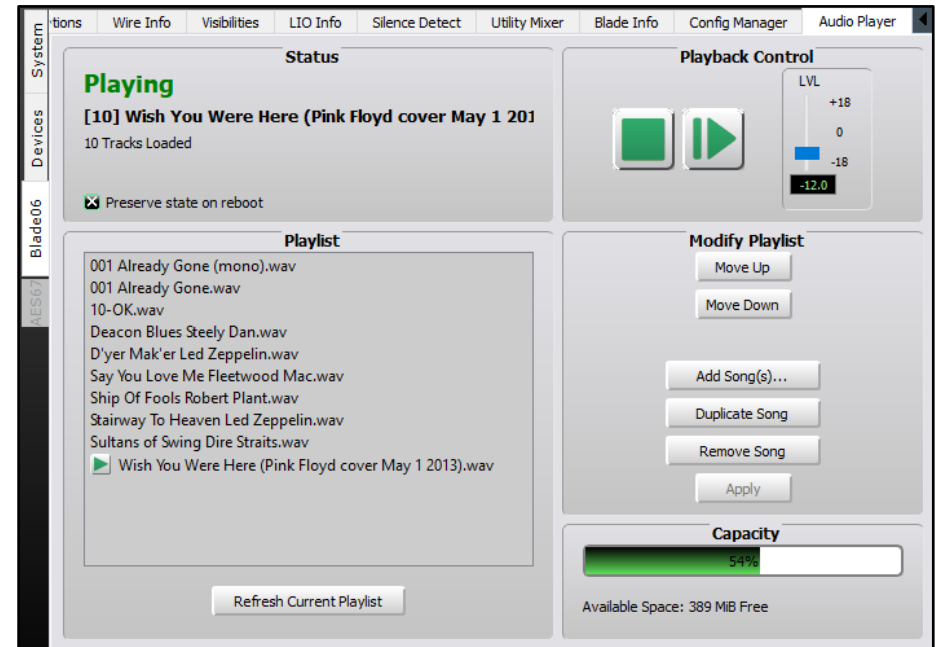

Figure 3-25 Audio Player Tab
Figure 3-25 shows the **Audio Player** tab, which is similar to the Clip Player built into the Strata Surface. It can be used to play test signals or other audio to test routing and as a confidence feed source. In radio applications it's often used as the alternate source for Silence Detectors so that when silence is detected some audio will continue to feed the transmitter. Refer to the Blade 3 user manual for details on using this tab.
- ❖ *Change Login...*—opens the Login window shown in Figure 3-25 on the last page
- ❖ *Change Password...*—opens the Admin Password change window shown Figure 3-25 on the last page.